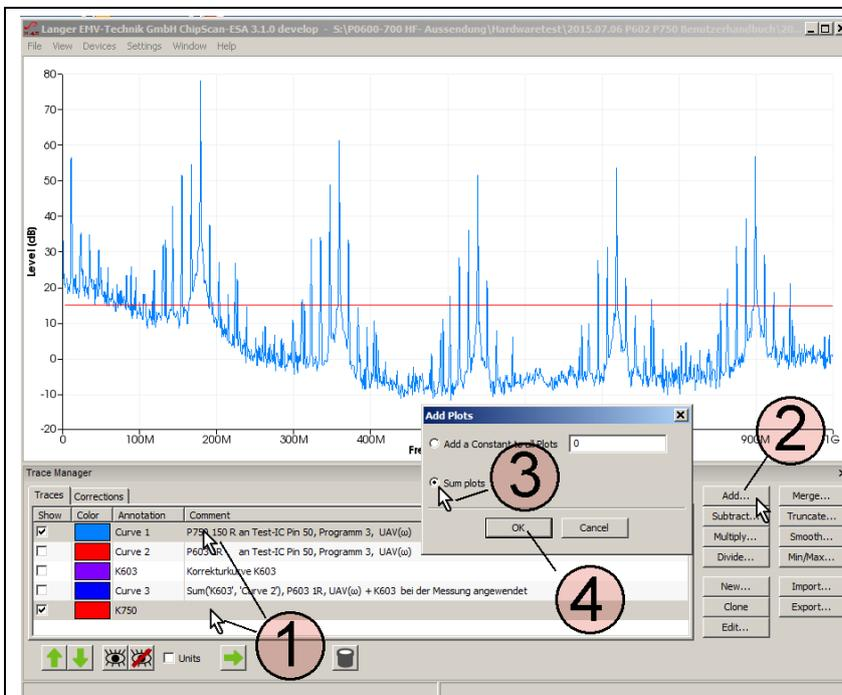

Figure 47: Correction after the measurement; performing the addition  $U_{IC} = U_{AV} + K750$
Mark the "Curve 1" ( $U_{AV}$ ) curve and the "K750" curve in the "Traces" list **Figure 47** in the "Trace Manager" with the mouse cursor ①. Open the mathematical operation "Add..." (addition) and activate "Sum up all Plots" (**Figure 47** mouse cursor ③). Click OK ④ to perform the addition  $U_{AV} + K750$ .